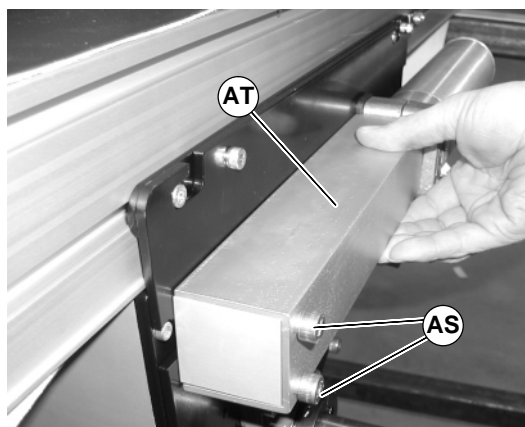

Figure 60
2. Remove screws (AS of Figure 60) and tensioning guards (AT) from both sides of center drive.